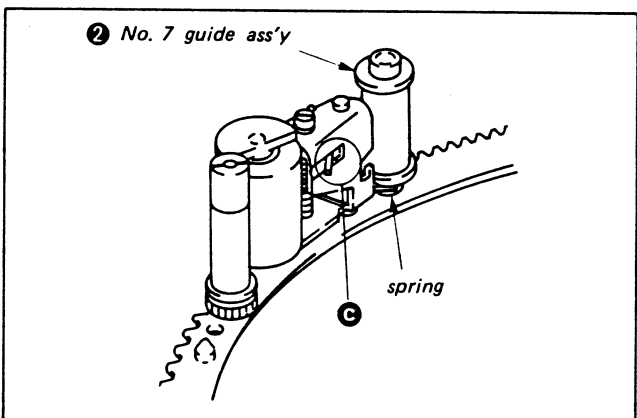

Fig. 3-20.
- 4) Place the spring on No. 7 guide assembly ②. At this time, check that the spring is hooked on section C. (See Fig. 3-20)